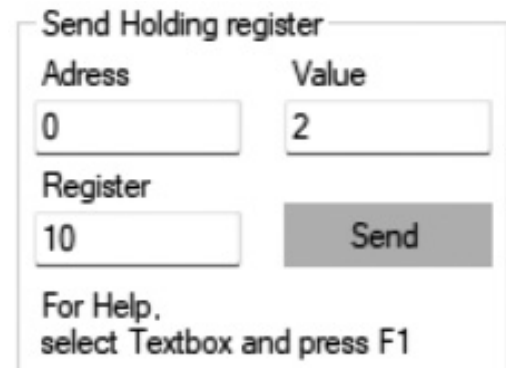

Fig. 12 — ZA Inverting D1 Input in “Send Holding Register”
- The D1 input needs to be inverted due to the dissipation board function. In “**Value**” input “2”, and for “**Register**” type “10”. Press the “**Send**” button. See Fig. 12.